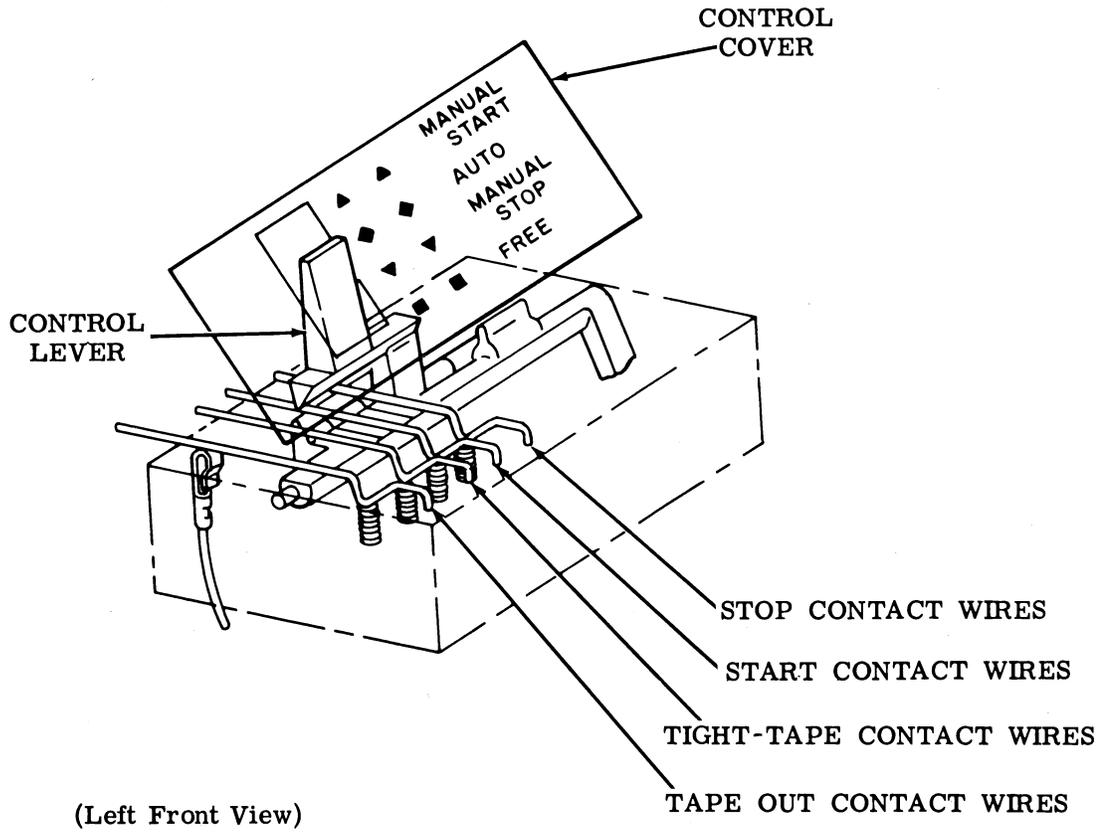
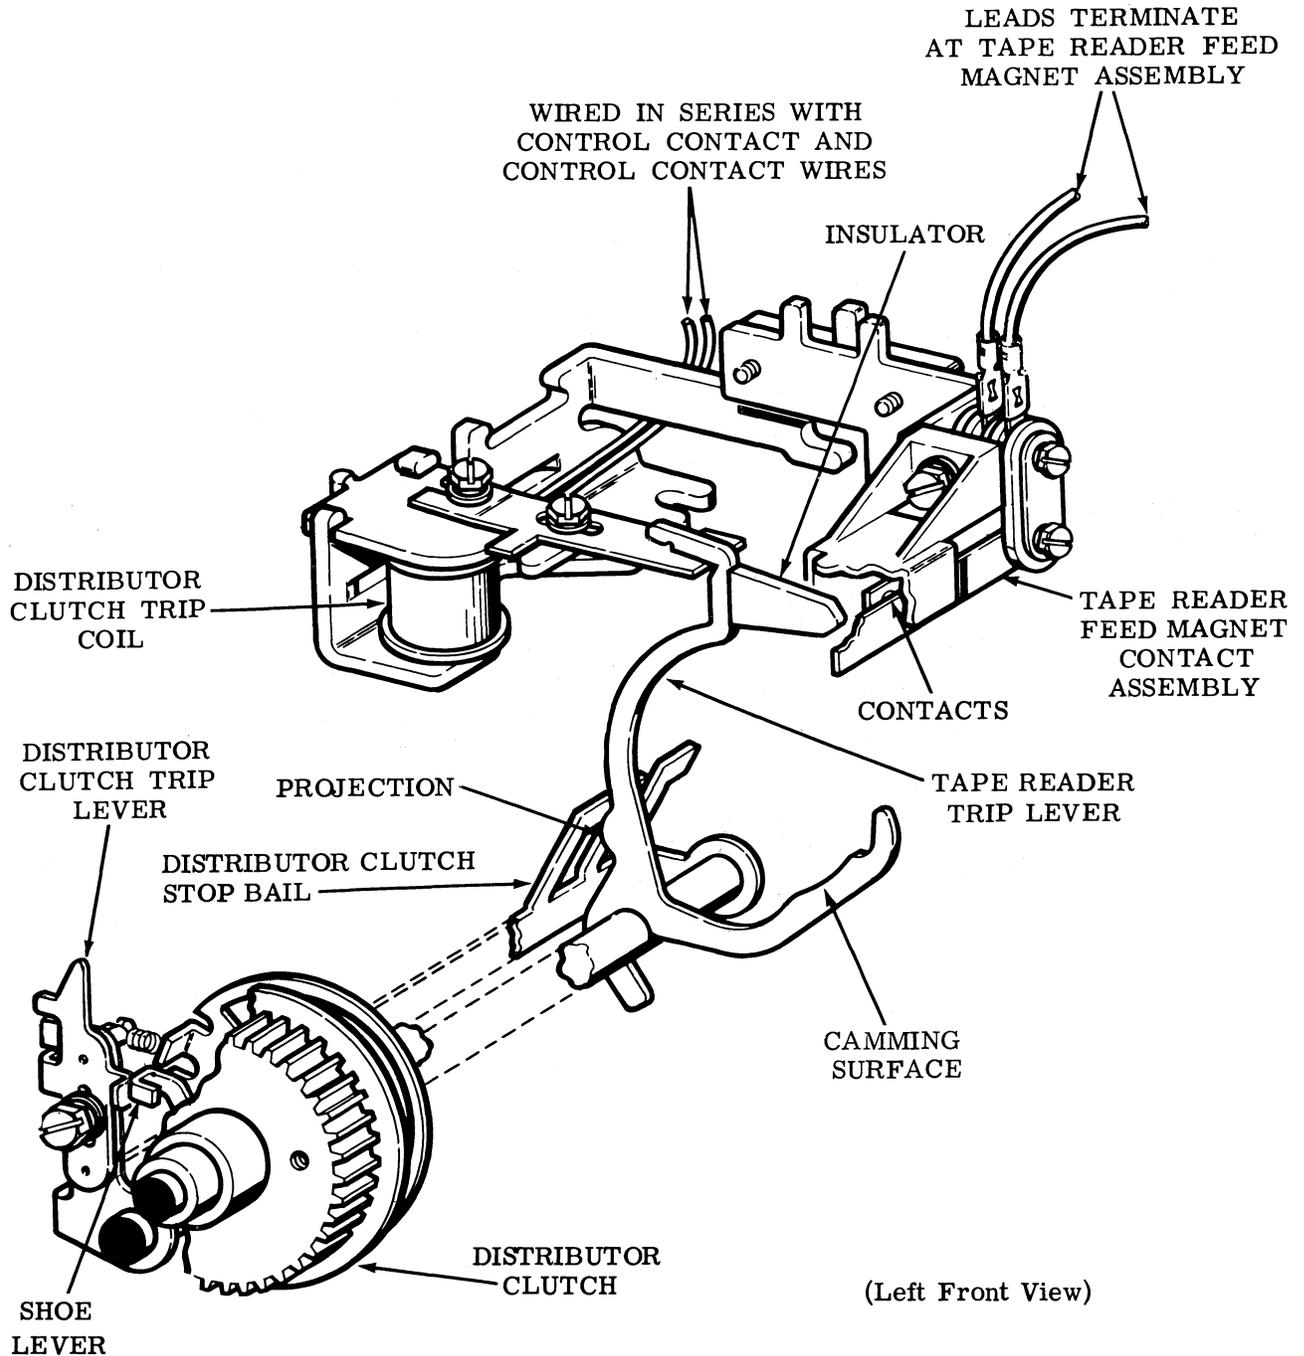
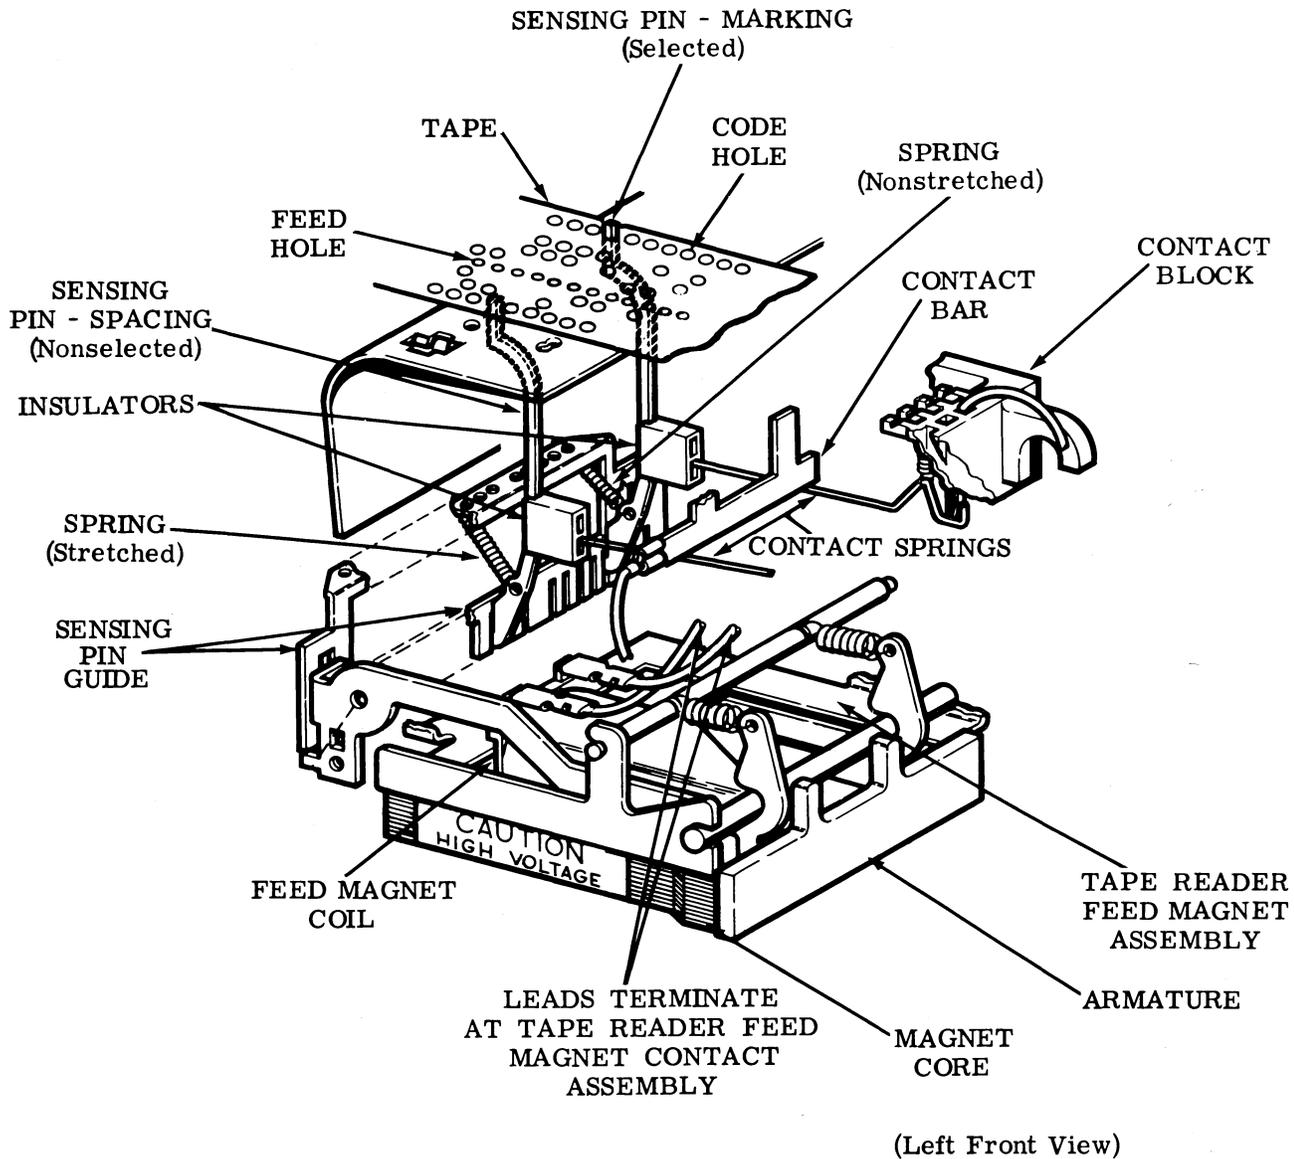

Figure 4 - Control Mechanism
Figure 5 - Distributor Trip Mechanism
Figure 6 - Feed Magnet and Sensing Mechanism
3.07 In the standard reader there are three positions for the control lever: START, STOP, and FREE. In the automatic reader there are four positions for the control lever: MANUAL START, AUTO, MANUAL STOP, and FREE. When the control lever is moved to the START position (MANUAL START position for the automatic reader — Figure 4) the spring biased start contact wires are positioned on the start contact. Since the start contact wires and the start contact are wired in series with the distributor clutch trip coil in the typing unit, the coil energizes and releases the tape reader trip lever (Figure 5).
3.08 When released the tape reader trip lever performs two functions; it closes the tape reader feed magnet contact assembly and trips the distributor clutch (Figure 5). The reader feed magnet assembly is closed by an insulator
3.09 With the feed magnet contacts closed (Figure 5) the feed magnet in the reader mechanism is activated. The energized feed magnet coil attracts the armature (Figure 6). Rotating about its pivot the armature raises the armature extensions. Fastened to the ends of the armature extensions is a sensing pin guide.
3.10 In its upward travel the sensing pin guide carries with it eight spring-biased pins which sense the tape. Where a hole exists in the tape (marking) the sensing pin continues its upward travel and its associated spring remains unstretched. Where no hole exists in the tape (spacing) the sensing pin travel is blocked and its associated spring becomes stretched (Figure 6).